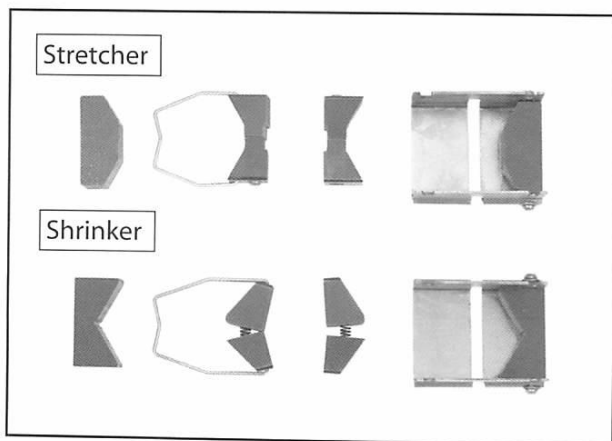

Figure 3. Die and jaw assembly order.
- Lay out the die components as shown in **Figure 3**.
- Use **Figures 3–4** as a guide to arrange the die parts in the correct order and reassemble.